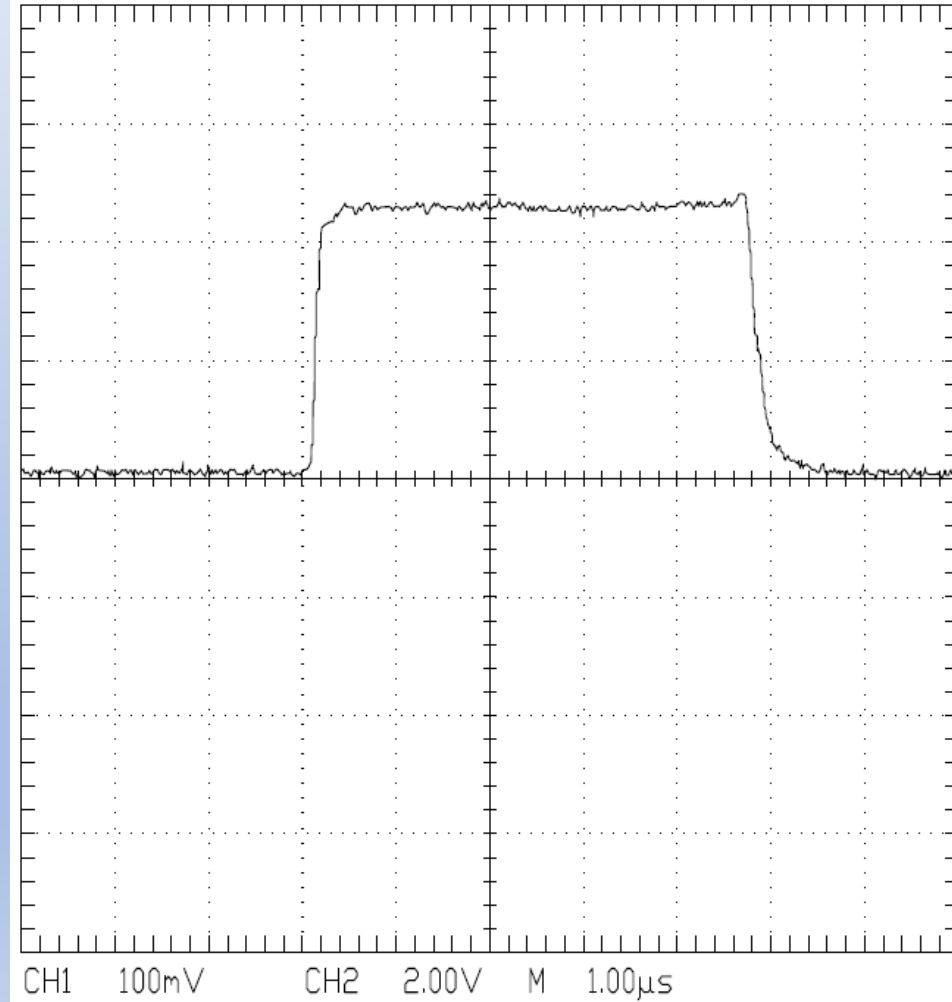

Figure 5-14
28. Check a waveform similar to Figure 5-14 is obtained for long pulse.